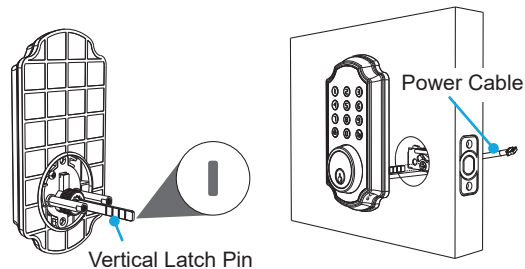

Fig. 6
Step 1. Start with the outside section. Turn the latch pin vertically and remove the key from the key hole. Gently feed the power cable under the latch and thread the latch pin through the square hole in latch. The latch pin must be vertical while inserting the square hole in the latch (Fig. 6).